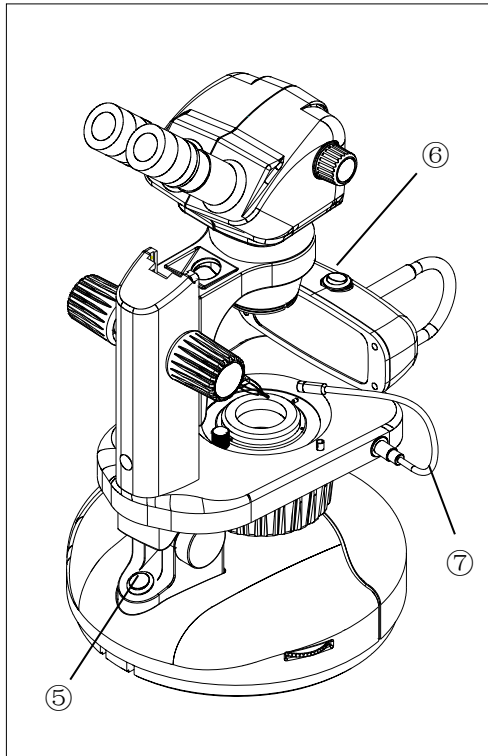

Fig. 11
3.4 Top illumination (Fig. 11)